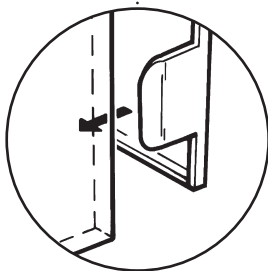

Fig. 94
5. Ensure that the outer case is located over the lower tabs on the back plate on both sides (Fig. 94).